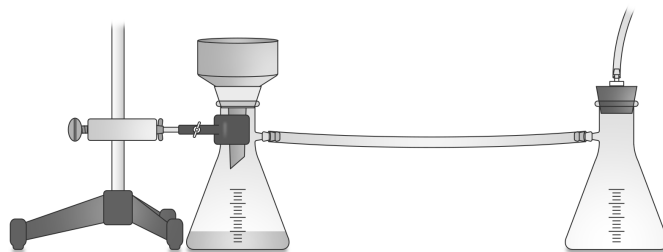

Figure 4. Sample filtration setup
9. Filter the mixture according to your instructor's directions. A sample filtration apparatus is shown in Figure 4. Pour the solution into a Buchner funnel that contains a quantitative disc filter. The tube leading out of the second filter flask is connected to a hand-operated vacuum pump or water aspirator.